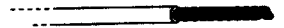

FIGURE 8-11: Tinned, stranded wire should be firm with even solder coating and penetration
5. Remove solder and then tip; allow tinned wire to cool (see Figure 8-11).